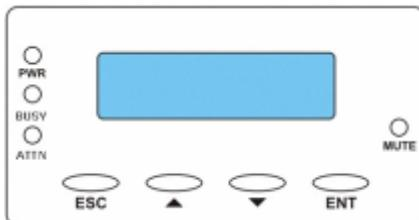

Figure 4-1: LCD Keypad Panel
The LCD keypad as shown in *Figure 4-1* consists of five (5) function keys, three (3) LEDs, and a 16-character x 2-rows LCD screen that provides access to firmware-embedded utility. Press the **ENT** button for two (2) seconds on the initial screen to enter the main menu. Press the **ESC** button to clear the current event.